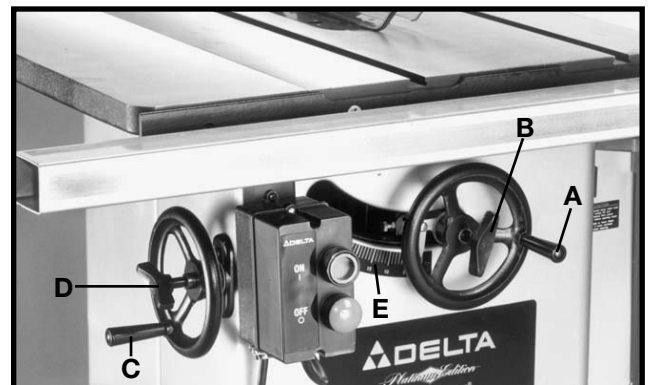

Fig. 108
The saw blade is raised and lowered with the front handwheel (A) Fig. 108. With the exception of hollow ground blades, the blade should be raised 1/8" to 1/4" above the top surface of the material being cut. With hollow ground blades, the blade should be raised the maximum to provide greater clearance. To raise the saw blade, loosen lock knob (B) Fig. 108, and turn the handwheel (A), clockwise. To lower the saw blade, turn handwheel (A) counterclockwise.
The saw blade is locked at any height by turning the lock knob (B) Fig. 108, clockwise. Due to the wedge action of this locking device, only a small amount of force is required to lock the blade raising mechanism securely. Any added force merely puts unnecessary strain on the locking device. Limit stops for raising or lowering are permanently built into the mechanism and need no further adjustment.
To tilt the saw blade to the desired angle, loosen lock knob (D) Fig. 108, and turn handwheel (C). A pointer indicates the angle of tilt on scale (E), which is marked in one-degree increments. To lock the saw blade in the desired angle of tilt, tighten lock knob (D).